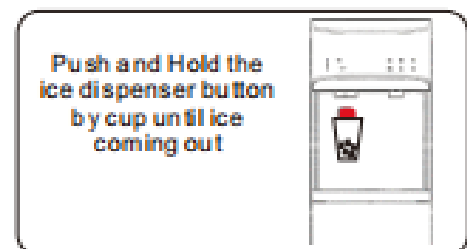

Fig 10
2. Use the water cup to push the ice dispensing button and hold it until the ice coming out from the spout; After releasing the button, the ice dispensing will stop **(Fig 10)**